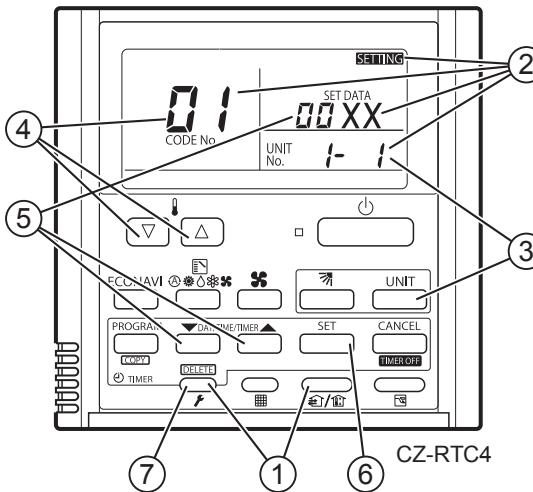

Fig. 4
- ① Press and hold the and buttons simultaneously for 4 seconds or longer.
- ② “**SETTING**”, unit No. “**I- I**” (or “**A LL**” in the case of group control), item code “**0 I**,” and settings data “**00 XX**” are displayed blinking on the remote controller LCD display (Fig. 4). At this time, the indoor unit fan (or all indoor unit fans in the case of group control) begins operating.
- ③ If group control is in effect, press the and select the address (unit No.) of the indoor unit to set. At this time, the fan at the indoor unit begins operating.
- ④ Press the temperature setting / buttons to select the item code to change.
- ⑤ Press the timer time ^{DAY} / ^{TIMER} buttons to select the desired setting data.
- ⑥ Press the button. (The display stops blinking and remains lit, and setting is completed.)
- ⑦ Press the button to return to normal remote controller display.